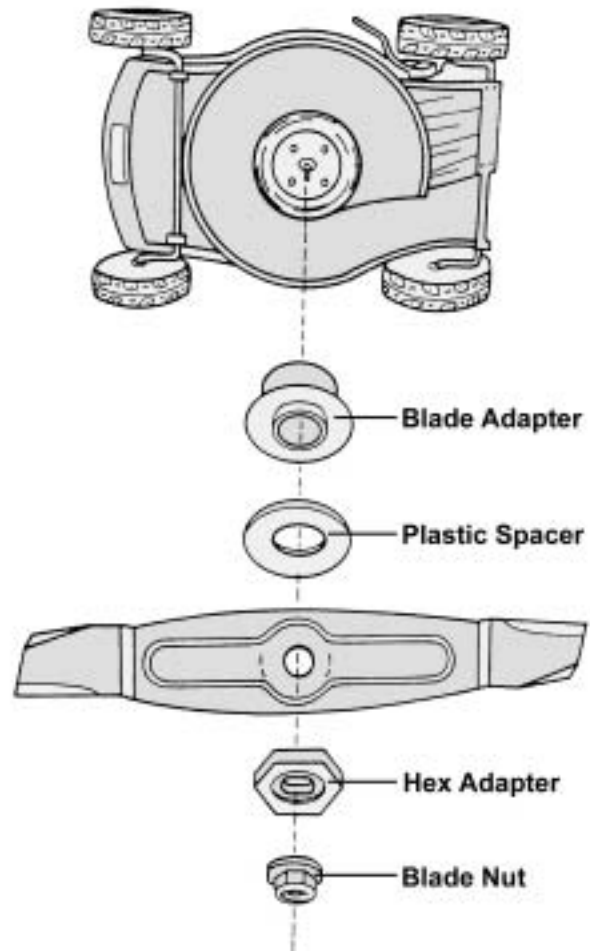

Figure 21
- Loosen the 1/2" blade nut (*Figure 21*) with the socket or adjustable wrench. The blade nut turns counterclockwise to loosen. Hold the steel hex adapter steady in one hand to prevent the motor shaft from turning, while loosening the blade nut with the other hand.
- Remove the blade nut, steel hex adapter, blade, plastic spacer and steel blade adapter (*Figure 21*).
To replace a sharpened blade or to install a new blade, reverse steps 1 – 4 above. Be sure to replace all parts exactly as they were removed as shown in *Figure 21*. Observe the correct orientation of the blade, and tighten the blade nut firmly.